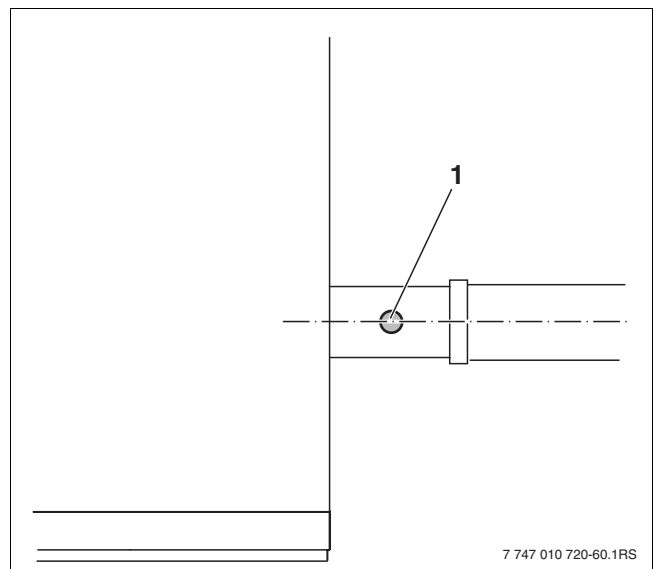

Fig. 47 Recording measured values
- Insert the sensor through a testing hole in the flue pipe (→ Fig. 47, page 48) into the centre of the gas flow.
- Measure the pressure in the flue using a suitable pressure tester (for location of testing point, see Fig. 47, page 48).